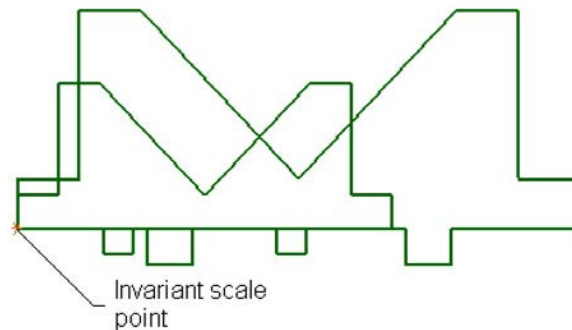

Figure 4-56 Uniformly scaled entities
5. After entering the required values, choose the **OK** button; the **Transformations** dialog box will expand. Choose the **Copy** button; the scaled copy of the selected entities will be displayed. Next, choose the **Cancel** button to exit from the dialog box. Figure 4-56 shows a uniformly scaled copy of the original sketch. The scale factor in this case is 1.5.